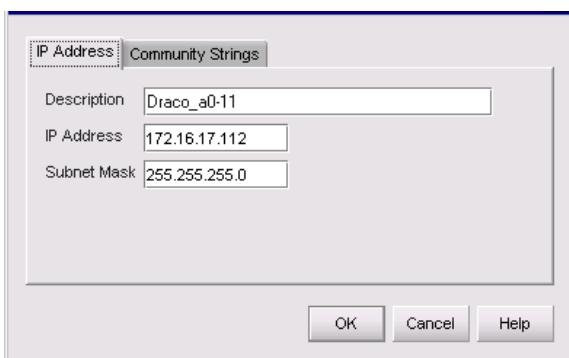

Figure 54 Domain Information dialog box
- d. Select (highlight) the entry representing the reset switch in the Available Addresses window and click **Change**. The Domain Information dialog box is displayed (Figure 54).